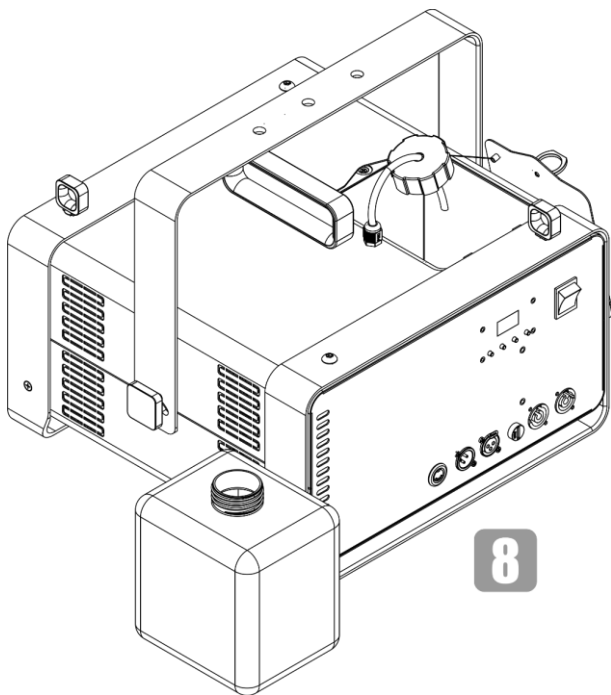

Fig. 15
- 08) Place the fluid tank on a flat service near the device, as shown in Fig. 15.